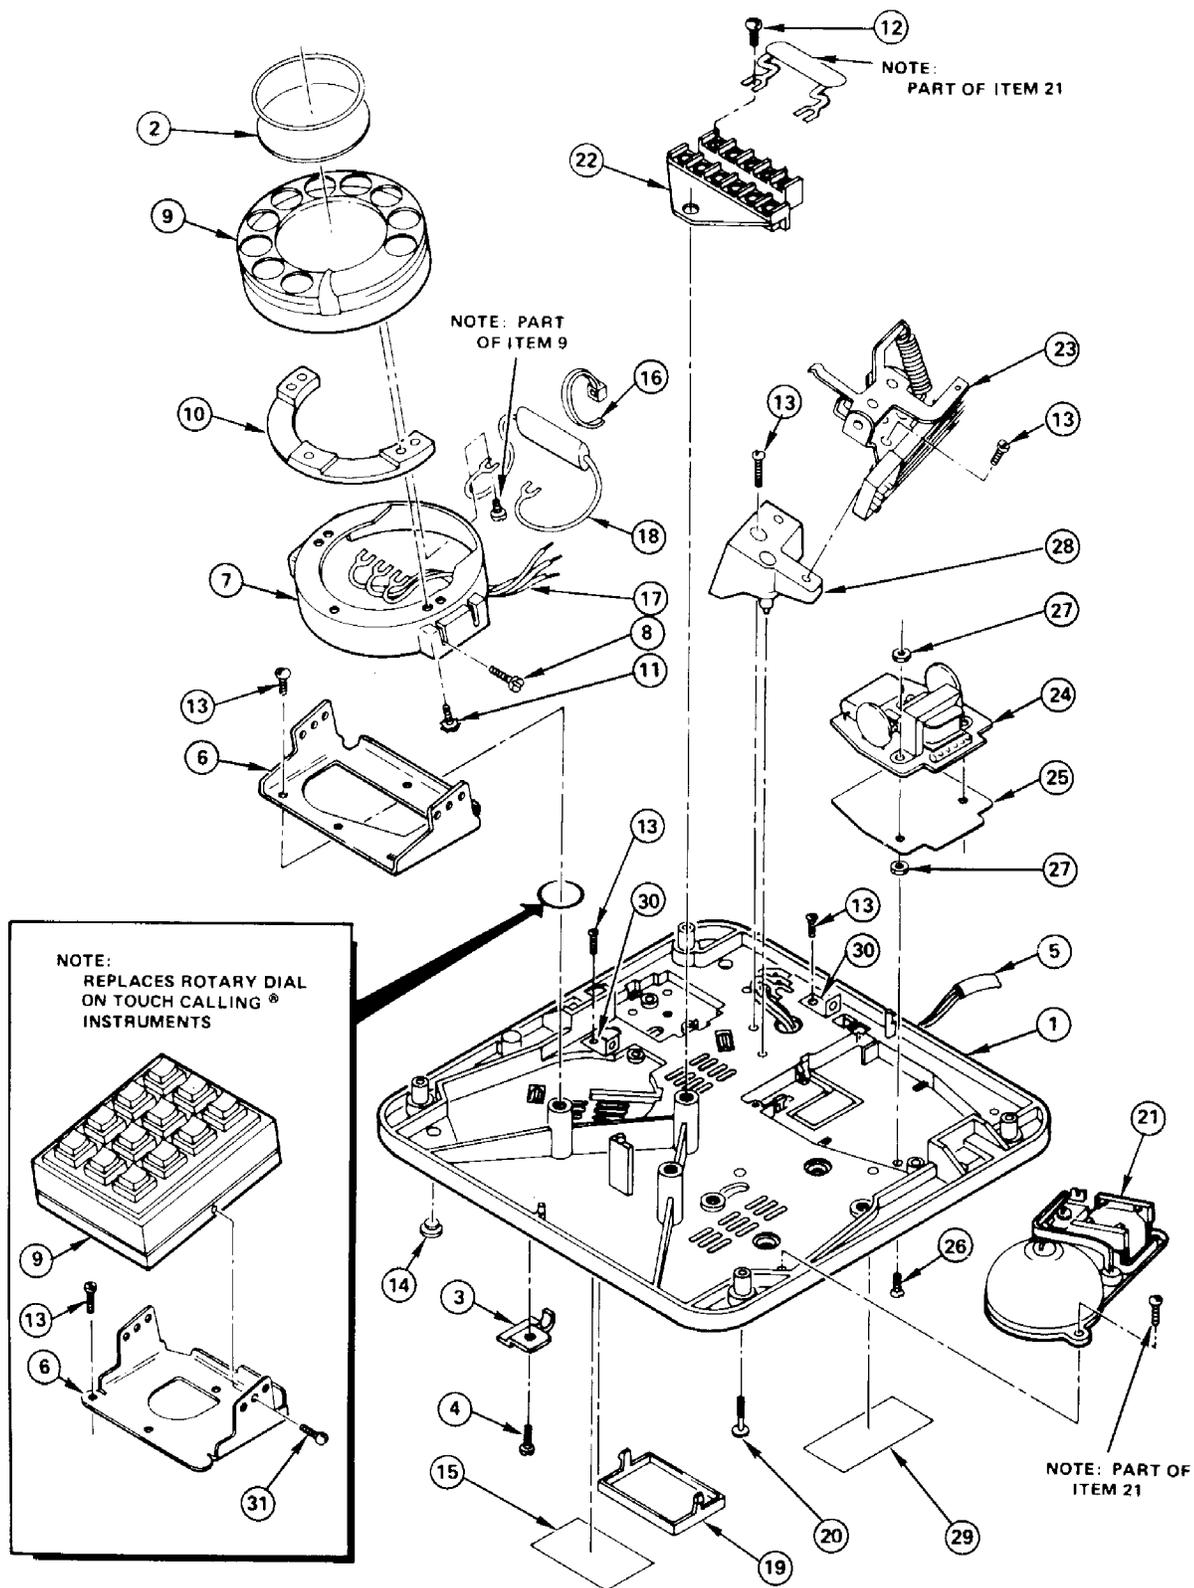

Figure 12. Mickey Mouse Telephone Base Assembly.
8.02 Remove the base assembly as follows (refer to Table 12 and Figure 12):
8.04 Replace the line cord as follows (refer to Table 12 and Figure 12):
- (b) Work the line cord (5) free from the retainer clip on the base (1) and detach the line cord lead lugs from the terminal board (22) connections.
- (c) Disengage the J-hook on the line cord (5) from the cord restraint bracket (30).
8.05 Replace the rotary dial as follows (refer to Table 12 and Figure 12):
- (b) Remove the four screws (8) securing the dial mounting platform (7) to the dial mounting bracket (6) and separate the dial mounting platform from the dial mounting bracket.
- (c) Detach the dial harness (17) lead lugs from the dial (9) electrical terminals.
- (d) Remove the three screws (11) that secure the dial (9) to the dial mounting platform (7) and separate the dial from the dial mounting platform. Set aside the dial spacer (10) and dial mounting platform.
8.06 Replace the Touch Calling unit as follows (refer to Table 12 and Figure 12):
- (b) Remove the two screws (31) securing the dial (9) to
8.07 Replace the hookswitch as follows (refer to Table 12 and Figure 12):
- (b) Detach the hookswitch (23) leads from the terminal board (22) connections.
- (c) Remove the two screws (13) securing the hookswitch to the hookswitch platform (28).
8.08 Replace the ringer as follows (refer to Table 12 and Figure 12):
- (b) Detach the ringer (21) leads from the terminal board (22) connections.
- (c) Remove the two screws securing the ringer to the base assembly (1).
8.09 Replace the transmission unit as follows (refer to Table 12 and Figure 12):
- (b) Detach the unit (24) leads from the terminal board (22) connections.
- (c) Remove the two nuts (27) securing the unit.